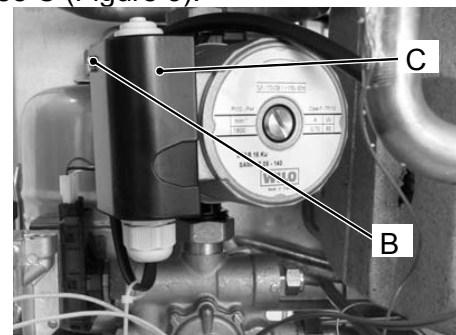

Figure 3
- 4) Unscrew the screw B and remove the black case C (Figure 3).